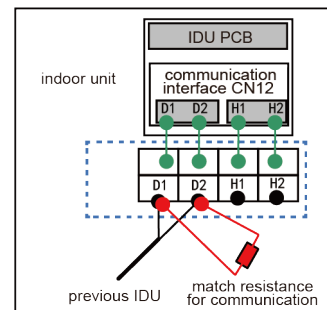

Fig.5.3.2
- (4) Fix the communication cable with clamp of electric box.
- (5) For more reliable communication, make sure connect the terminal resistor to the most downstream IDU of the communication bus (terminal D1 and D2), as shown in Fig 5.3.2, terminal resistor is provided with each ODU.